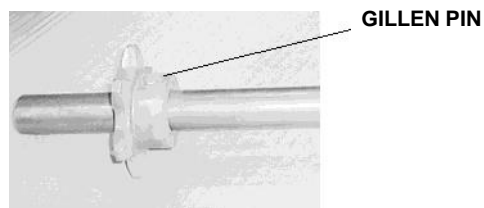

Figure 12: Gillen pin
- B. If the headshaft turns, but the chain does not move, inspect the headshaft gillen pins or keys (Figure 12). In some cases, a sprocket key is used instead of a pin. If the pins or keys are damaged, refer to “Removal of Headshaft Assembly” below.